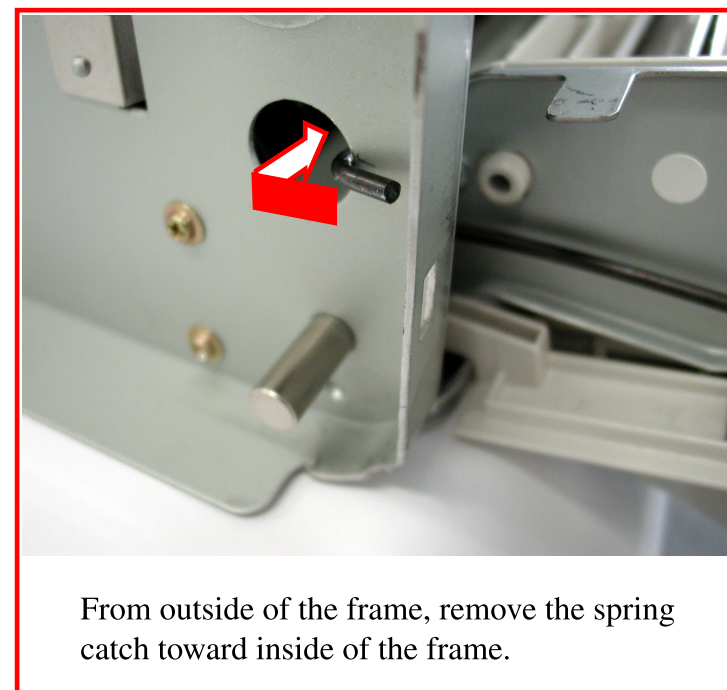

Figure 4-16. Right Door Removal 3
8. With the Right Door lifted slightly from the completely opened position, disengage from the frame the end of the torsion spring installed on the left end of the door retaining shaft. (See "Figure 4-16 (p.180)")